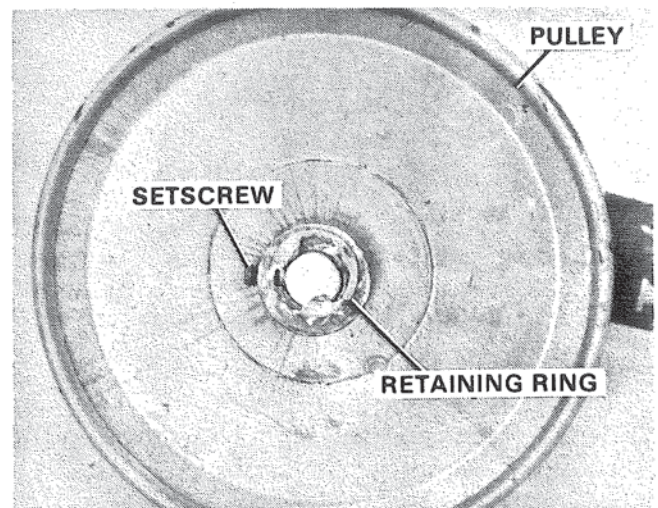

Figure 2. Removing Pulley.
1. Remove pulley by removing retaining ring, and loosening set screw. Figure 2.